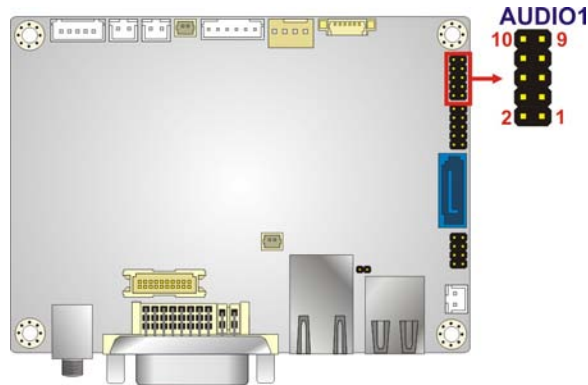

Figure 3-4: Audio Connector Location
- CN Location: See **Figure 3-4**